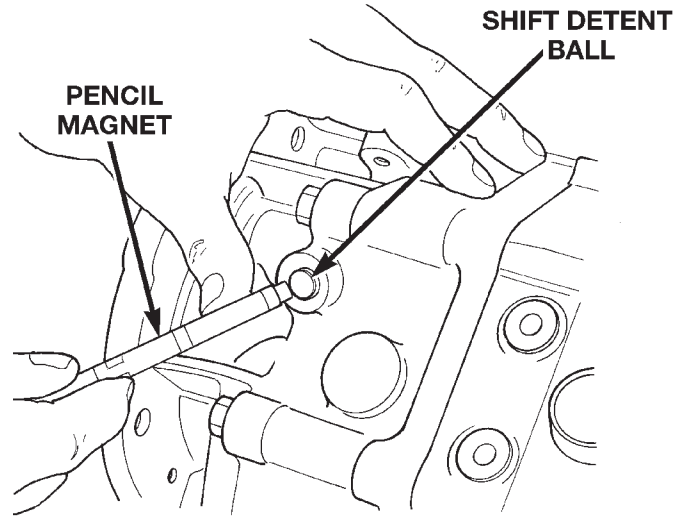
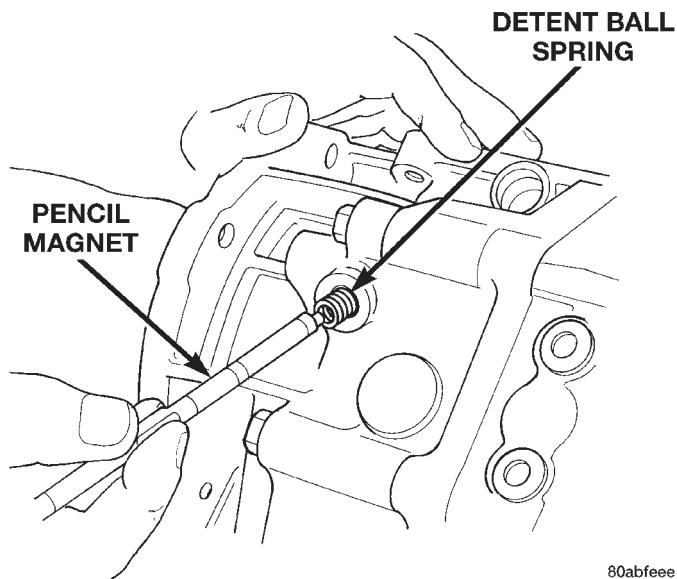

Fig. 21 Remove Detent Ball
Fig. 20 Remove Detent Spring
- (9) Remove detent spring and ball with pencil magnet (Fig. 20), (Fig. 21).